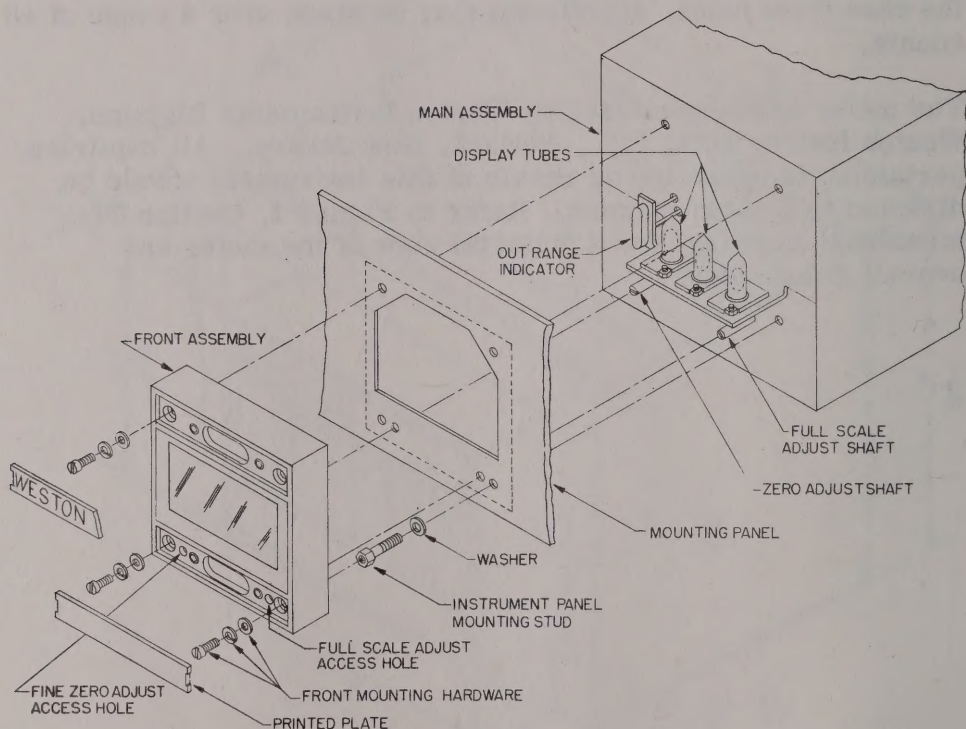
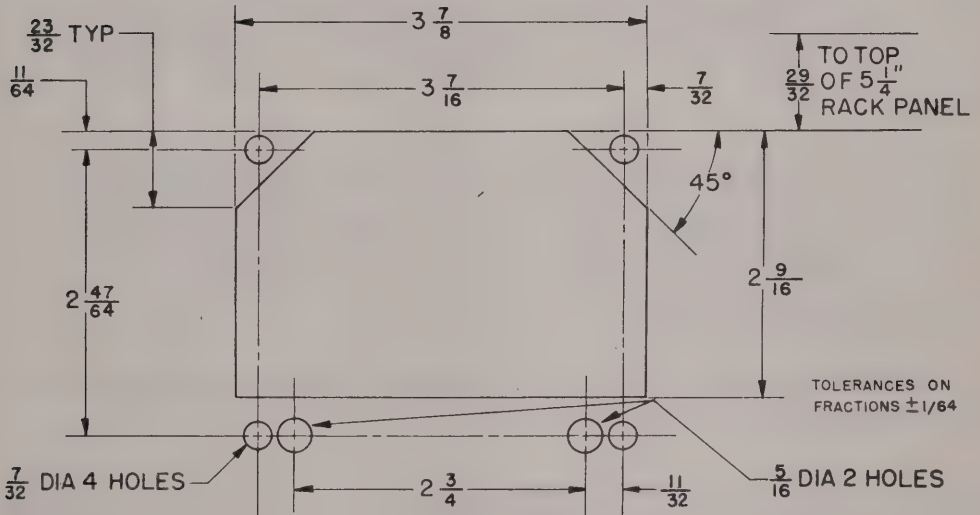

Figure 2. Meter Mounting Drawing
Figure 3. Panel Cut-Out Dimensions
2. Mount the main assembly (See Figure 2) with the four studs and washers on a panel $1/16$ to $1/8$ inch thick prepared in accordance with the panel cut-out dimensions. (See Figure 3.)